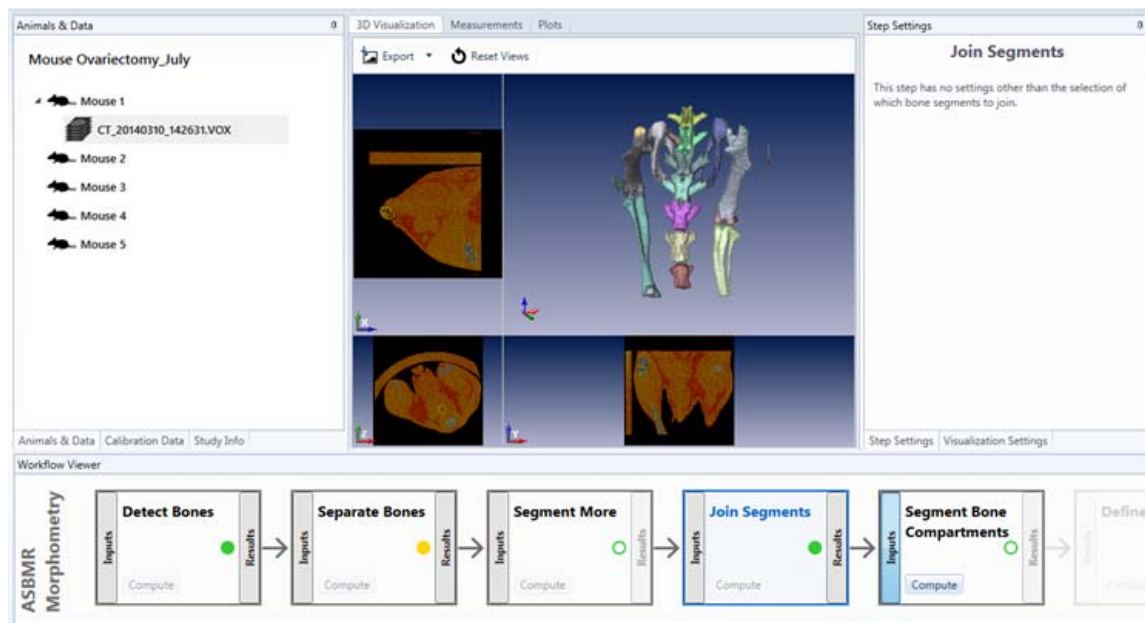

Figure 44. Join Segments Step Results
- Click the **Compute** button in the Join Segments step box on the Workflow Viewer Tab. The results of the Join Segments step display on the AccuCT Main Window. See Figure 44.